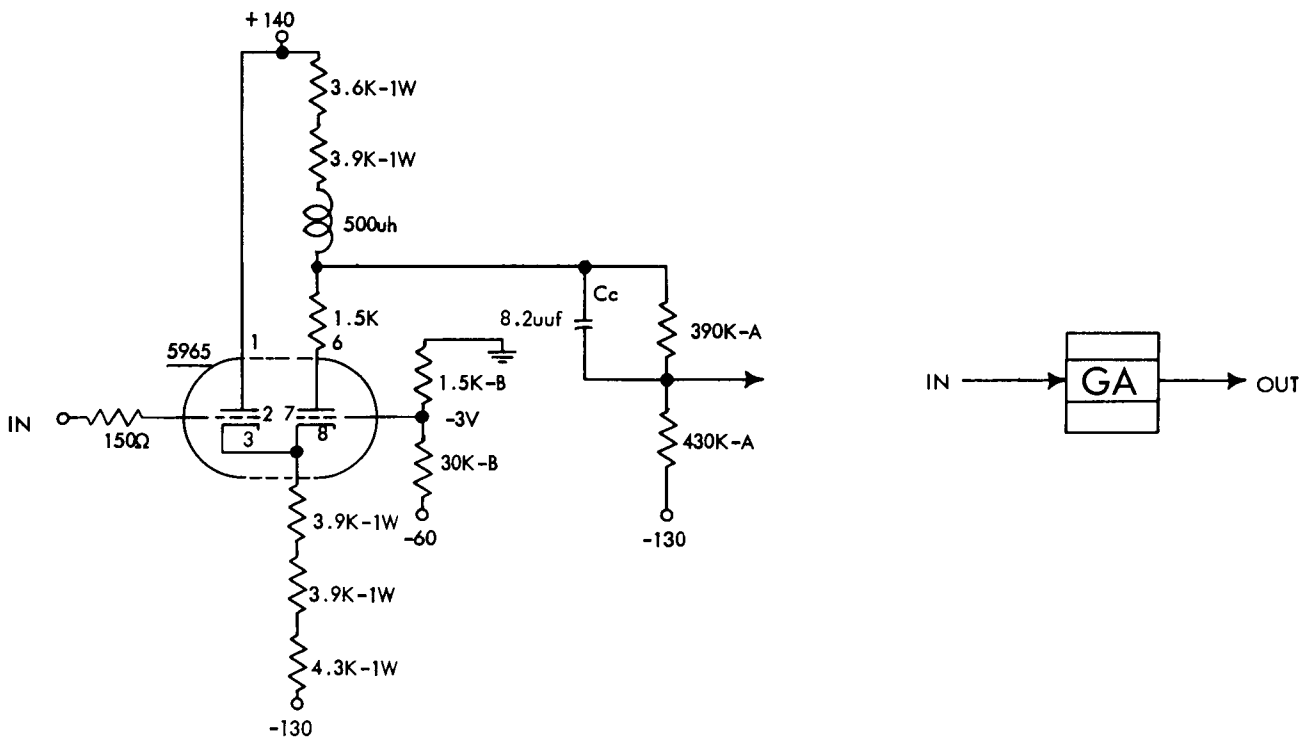

FIGURE C43. STANDARD GROUNDED GRID AMPLIFIER -- GA
2.04.09 Grounded Grid Amplifier (GA)
The grounded grid amplifier (GA) (Figure C43) is similar to the grounded grid amplifier GA_F (section 2.10.00, Book A). The principal difference is the tapped plate connection in the GA. The different connection causes the divider output to vary from +10 to -30 volts rather than from +10 to -38 volts. In all other considerations, the two circuits are alike.